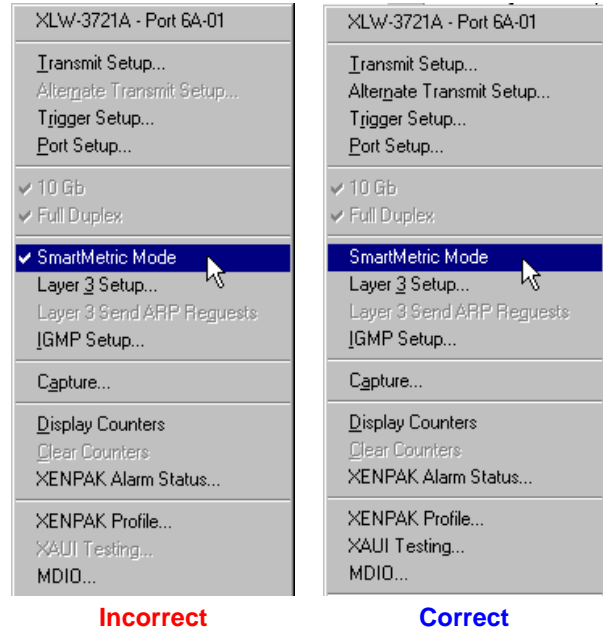

Figure 8-21. Setting Traditional Mode
- 4 Ensure that the **SmartMetrics Mode** option is not enabled on the *Port* menu (Figure 8-21 on page 348).